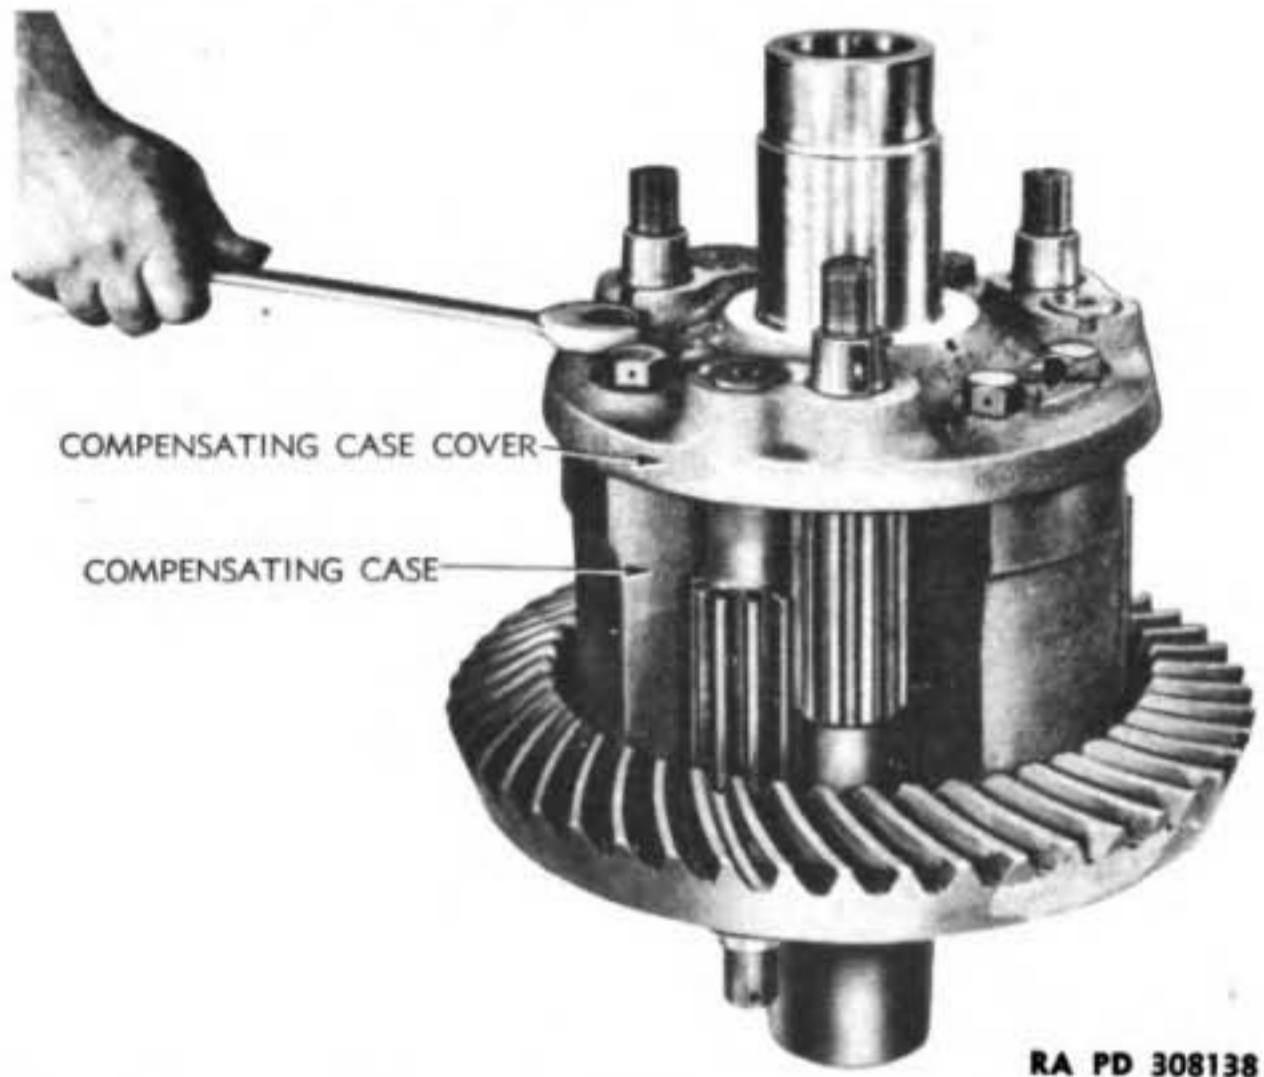

Figure 38 – Removing Compensating Case Cover
c. **Disassemble Differential Assembly.** Set assembly on blocks as (fig. 36), to prevent its tipping. Using puller (41-P-2910-50) installed as shown in illustration, pull brake drum and hub assembly, bearing, and drum hub thrust washer from hub. Remove the same parts from other end in same manner. Pull cotter pins and remove slotted nuts from ends of the six differential pinion shafts. Using gear puller (fig. 37), pull outer pinions from shafts. Gears can be held from turning by placing a short piece of square key stock or similar material between teeth of pinions in such manner that teeth will not be damaged. Remove keys from slots in shaft after pulling pinions. Remove lock wires from heads of cap screws and remove the six cap screws that attach right compensating case cover to compensating case (fig. 38). Mark cover and compensating case with center punch so it can be reinstalled in same position, then tap cover off dowels in compensating case. Dowels may remain in covers. Lift pinion shafts